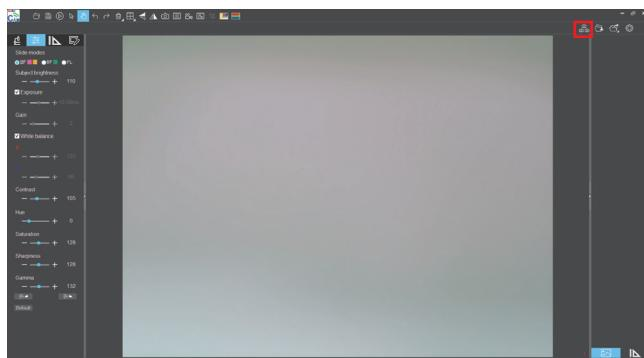

Figure 1
- (1) Connect a Windows PC or laptop that supports 5G WiFi IEEE802.11ac protocol to the same local area network as the camera.
- (2) Install and run the software KoPa Capture Pro on the Windows PC or laptop.
- (3) When there is only one network camera in the local area network, the software can automatically get the live image from the camera.
- (4) When there are multiple network cameras in the same local area network, click the icon "  " in the upper right corner of KoPa Capture Pro (Figure 1), the list automatically shows all cameras in the current local area network (Figure 2), select a camera as needed, support switching midway at any time.